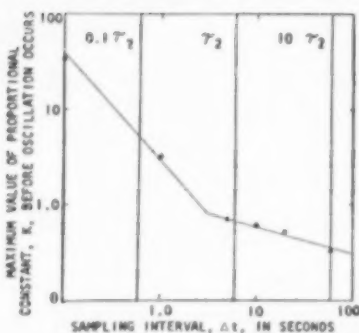
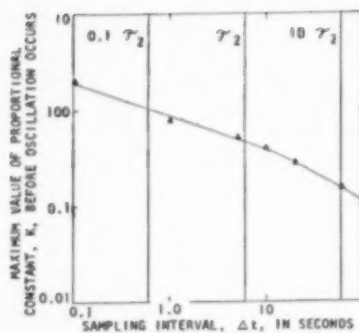

Fig. 18. Effect of sampling interval on range of controller constants for top plate sampling.
Fig. 19. Effect of sampling interval on range of controller constants for intermediate plate sampling.
In order to show further the effects of an increasing sampling interval, the maximum proportional constant from each of the above-mentioned graphs which still gives a stable response is plotted against the corresponding sampling interval for top plate sampling in Figure 18, and for intermediate plate sampling in Figure 19. It can be seen from these plots that the permissible value of the proportional constant falls rapidly until a sampling interval of about one-half the basic-column time constant, τ_c , or three seconds is reached. After this point the rate of decrease is less as sampling interval increases. However, the permissible value of the proportional constant is now much smaller.
This same point has been previously brought out in a study of other systems. For example, Truxall (3) reports that the maximum sampling interval should be less than one-half the system time constant when expressed in the same units of time. Thus the maximum sampling interval in our distillation column should be three seconds or less since most time lags in the system are six seconds. This is verified by Figures 18 and 19.